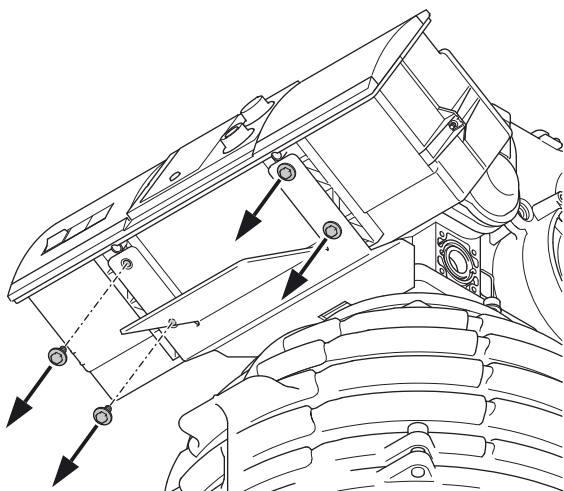

Fig. 6-7 Remove the fixing screws for the boiler control panel
9. Remove the fixing screws of the boiler control panel with wrench SW 8 (fig. 6-7) and remove the control panel.